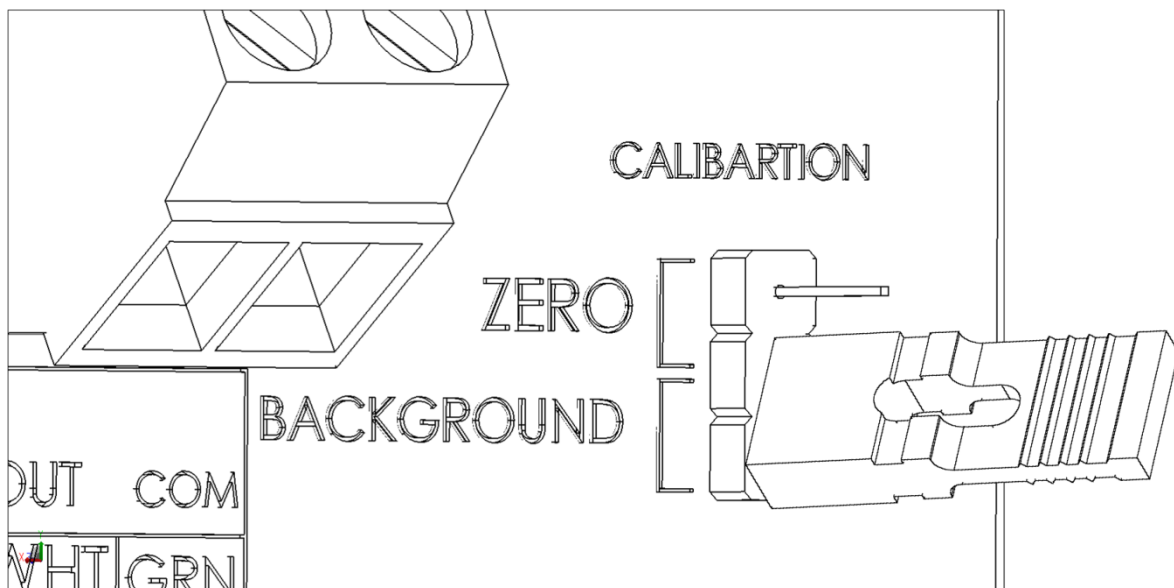

Figure 17: Shorting the Background Jumpers
5. Using the supplied jumper, short the Background jumpers for 10 seconds as shown in Figure 17.